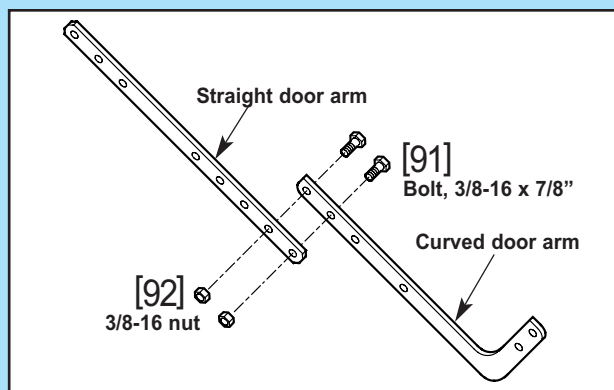

Fig. 2-16
10. Join door arms exactly as shown (Fig. 2-16).
- Overlap arms by two (2) holes.
- Install two (2) 3/8" x 7/8" hex bolts, and hex flange nuts.